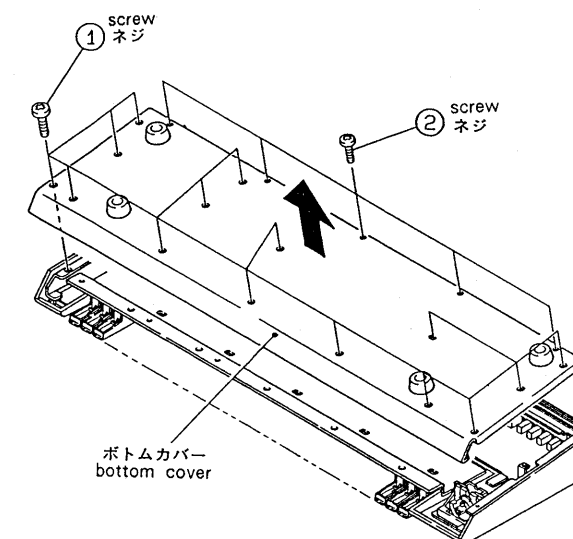

Fig.1 (図-1)
1) Turn OFF the power supply switch and remove the power supply cord. Turn over the U-20 unit, loosen (1) 15 screws and (2) 5 screws and then remove the bottom cover from the unit. (Fig.1)